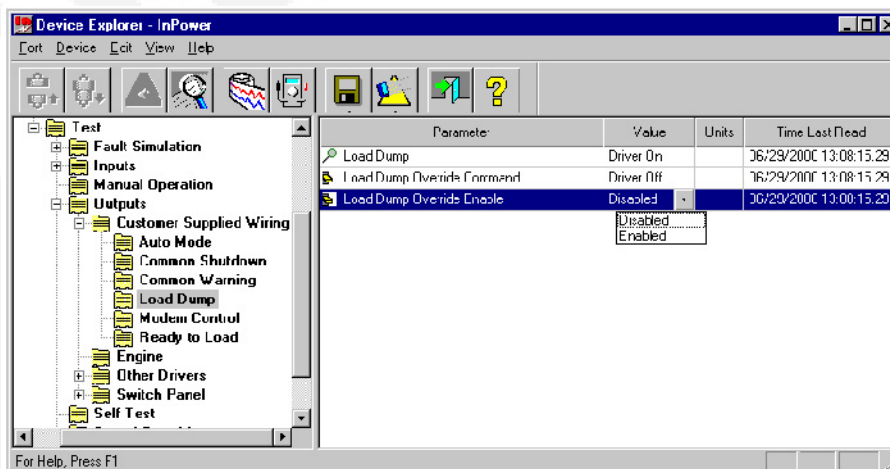

FIGURE 47. OUTPUTS - CUST. SUPPL. WIRING - LOAD DUMP
**Example:** In this example, InPower is used to enable the **Load Dump Override Command** (refer to Figure 47). Make sure that the **Load Dump** parameter is set to **Driver On**. (If it is not, change it with the **Load Dump Override Command** parameter, and save that parameter setting.)